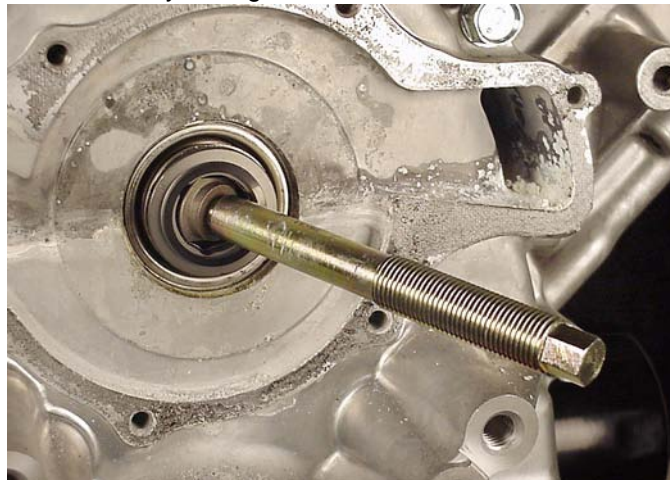

Fig. 98
2. Insert nut and stud through water pump seal at a slight angle as far as it will go, Fig. 98.